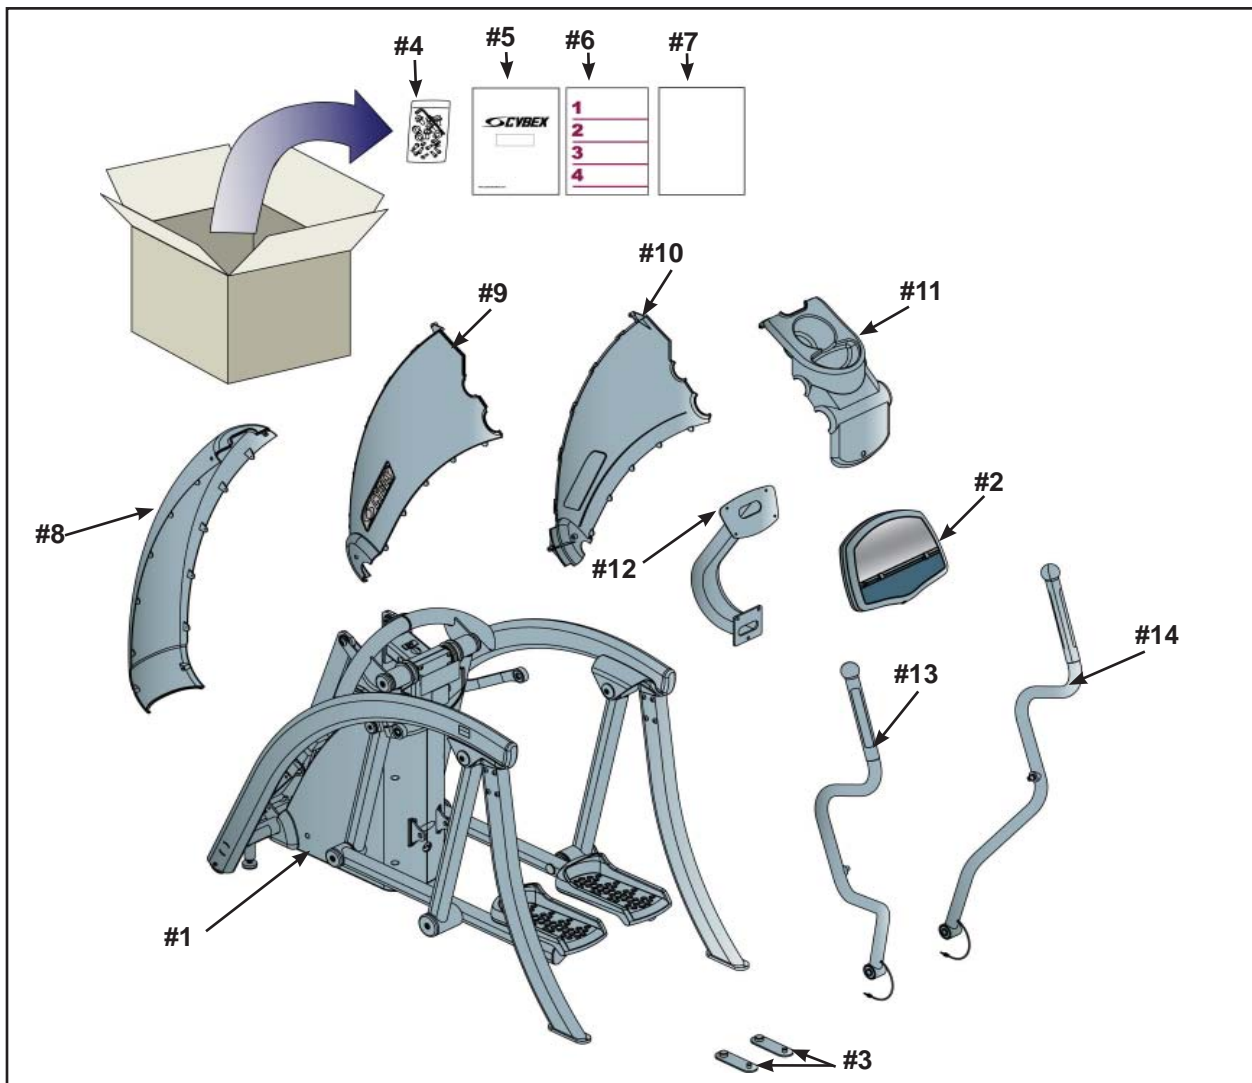

Figure 1
- D. Check to be sure that the following items are present. Check off () each item as you find it. See Figure 1. If any of the parts are missing contact Cybex Customer Service.